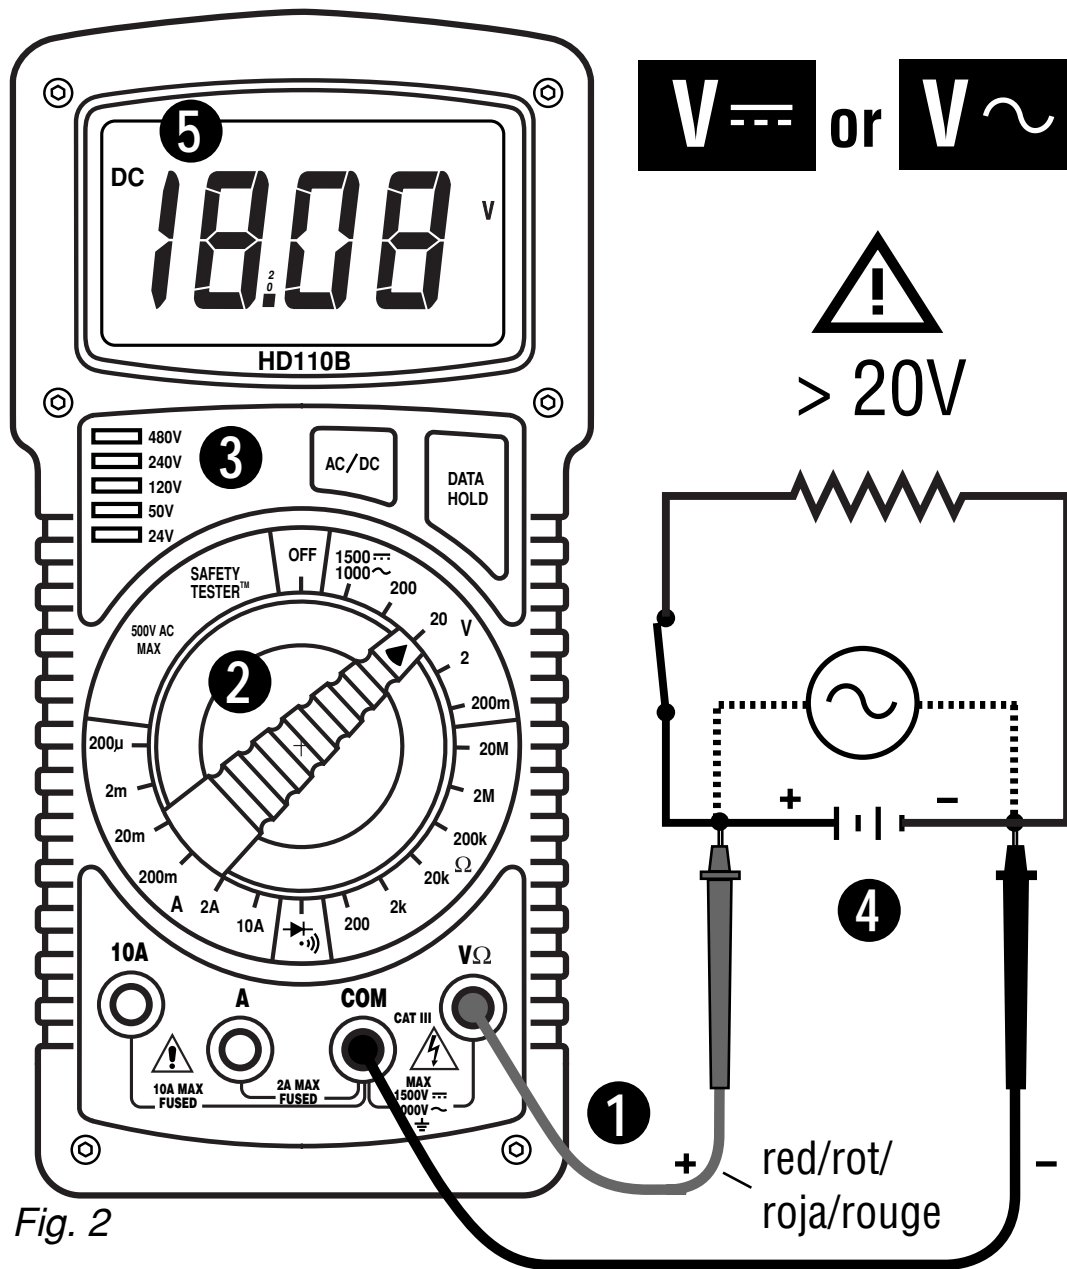

Fig. 2
DC AND AC VOLTAGE MEASUREMENT (See Fig. 2)
❶ Connect test leads to the meter as shown in figure 2. ❷ Turn function selector switch to V and the desired range. ❸ Press the AC/DC menu button to display either AC or DC indicator. ❹ Touch Probe tips across voltage source (in parallel with circuit). ❺ Voltage value will appear on Digital Display along with the voltage polarity (for DC).
D • Gleich- und Wechselspannungsmessung (Siehe Fig. 2)